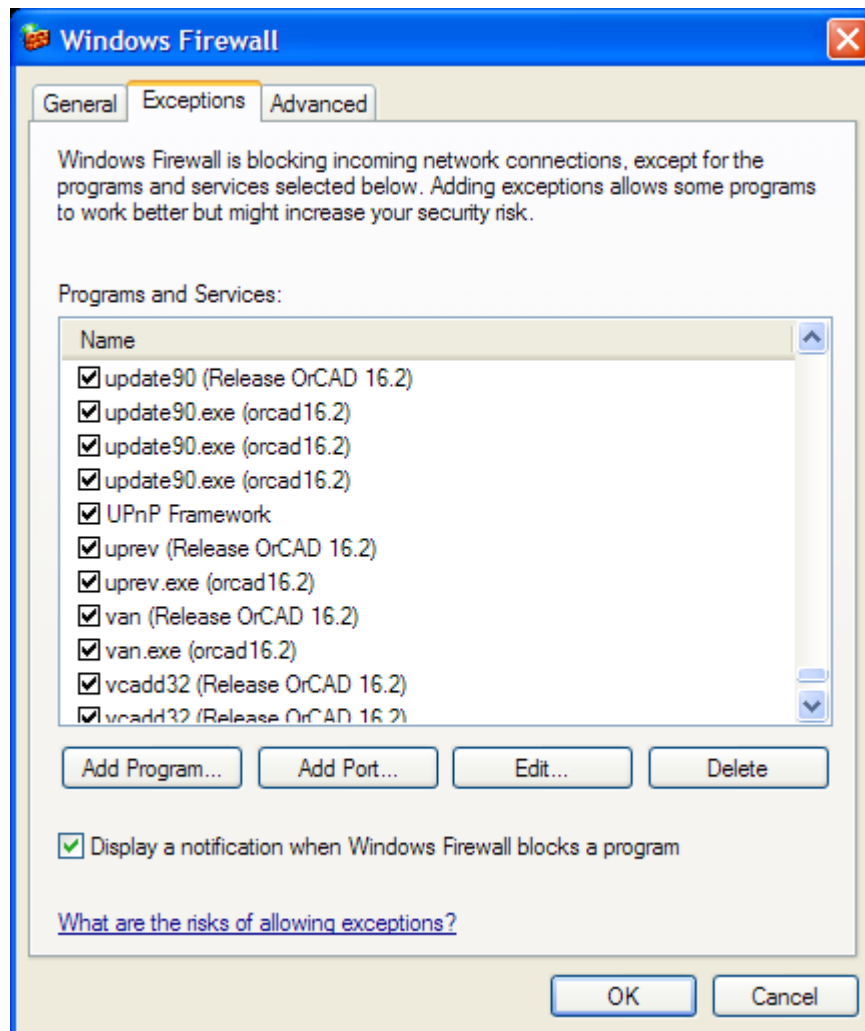

Figure 25 – Windows Firewall
- » In the example shown in Figure 25, go to **Start > My Network Places**.